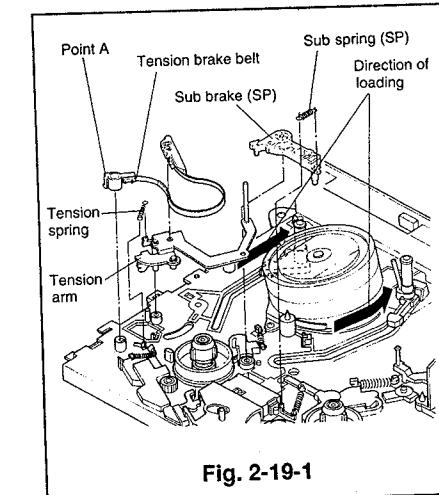

Fig. 2-19-1
- ① Remove the cassette housing. (Refer to Para. 2-1 for the removal method.)
- ② Supply a voltage(approximately 5V DC plus voltage on the red wire) to the loading motor and slide the tape guide assembly completely to the loaded position,to set it to the loaded position.
- ③ Remove the sub brake(SP) and the sub spring(SP). (Refer to Para. 2-14 for the removal method.)
- ④ Unfasten the catch of the part A on the tension brake belt and raise the part A to unfasten the tension brake belt from the supply reel disk.(Refer to Fig. 2-19-1)